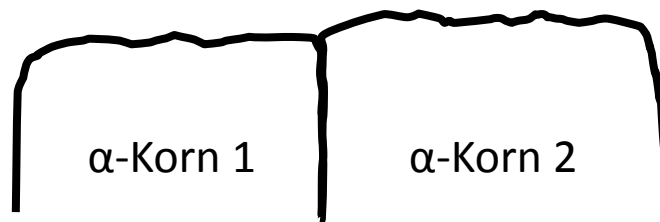

Figure 1
- a) In figure 1 there is a sketch (side-view) showing two ferrite grains which have been etched using nitric acid (HNO_3 – deep etching). Make such a sketch for a nitric acid etched pearlitic steel having two different orientated pearlite colonies. Label each constituent of pearlite. (4 Points)